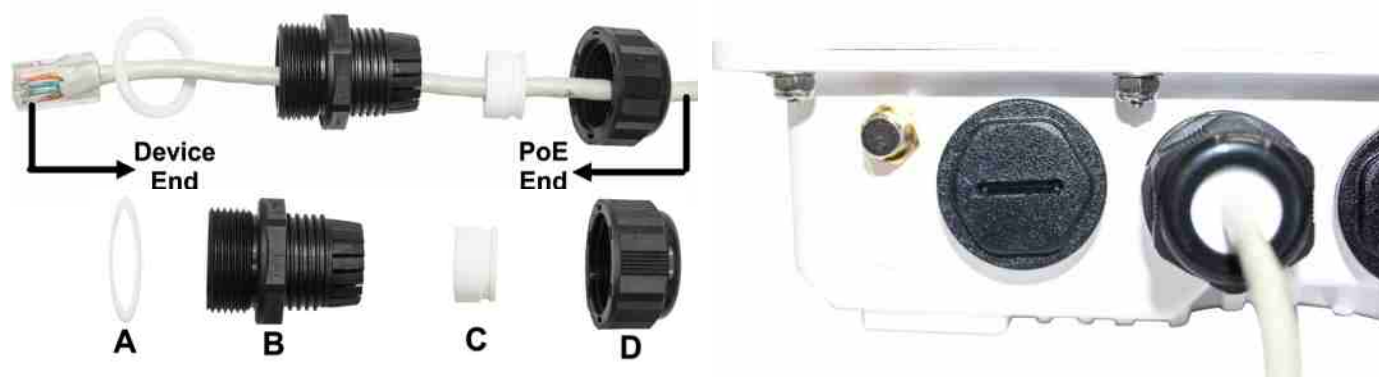

Figure 4-1 Weatherproofing RJ45 Connection
2. Insert the CAT5e / CAT6 cable through the Sealing Nut (D) and install the Compression Washer (C) to the cable. Compression Washer (C) has a slit in the middle for quick installation onto the cable.
3. Install the parts (D) and (C) in the direction as shown in Figure 4-1.
4. Insert the Flat Washer (A) onto the Connector Body (B) and then insert the CAT5e/CAT6 cable through the Connector Body (B).
8. Slide and Insert the Compression Washer (C) into the Connector Body Assembly.
9. Fasten the Sealing Nut (D) to the Connector Body Assembly and fully tighten it to weatherproof the cable.